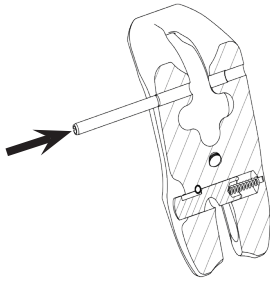

Fig. 25:
2. If used again, insert a new matching original RUD locking pin using a hammer (direction as in Fig. 25).